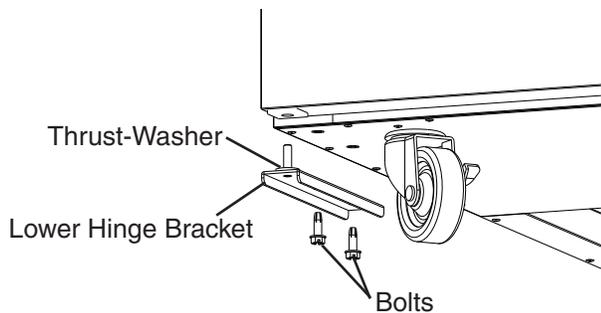

Fig. 14
- 11) Move the door into position and maintain a hold on the door. Make sure the thrust-washer is in place, then install the lower hinge bracket. Do not tighten the bolts yet. Start each bolt for a few threads only and leave loose. See Fig. 14.